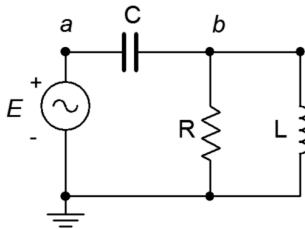

Figure 4.21
36. In the circuit of Figure 4.21, determine a value for L such that the magnitude of v_b equals $v_a/2$ if the source frequency is 10 kHz, $R = 2.7 \text{ k}\Omega$ and $C = 10 \text{ nF}$.
37. Given the circuit of Figure 4.21, determine a value for C such that the source current is in phase with the source voltage. The source frequency is 1 kHz, $R = 68 \Omega$ and $L = 22 \text{ mH}$.